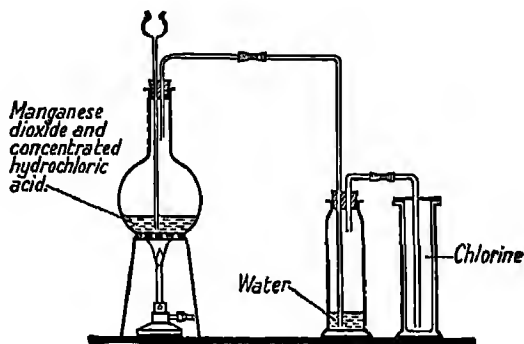

FIG. 120. Preparation of chlorine.
**Expt. 180.** To prepare several jars of chlorine. Prepare the gas in a fume cupboard as chlorine is poisonous. Fit up the apparatus as shown in Fig. 120. Cover the granulated manganese dioxide in the flask with concentrated hydrochloric acid. Warm gently. The gas passes through the wash bottle of water and is collected by downward delivery, chlorine gas being very much heavier than air. The wash bottle is to free the chlorine of hydrochloric acid gas which comes off with the chlorine. The hydrochloric acid gas is very soluble in water and remains dissolved in the water of the wash bottle. Chlorine is less soluble in water, and although some dissolves, much more passes through the water. As the experiment proceeds, note the gradual spreading of the green colour from the flask, through the wash bottle, and into the jar. When a jar is full, change it and collect several jars. Chlorine can also be prepared by adding concentrated hydrochloric acid to solid potassium permanganate. The acid must enter the flask drop by drop as the action is vigorous. No heat is required.